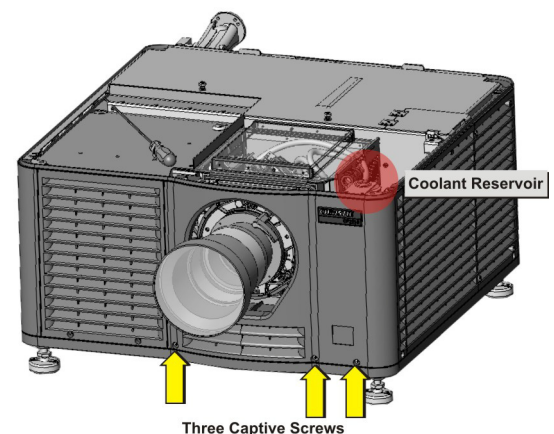

Figure 5-2 Remove Front Skin
3. Loosen the three captive screws along the bottom of the front skin. (**Figure 5-2**)